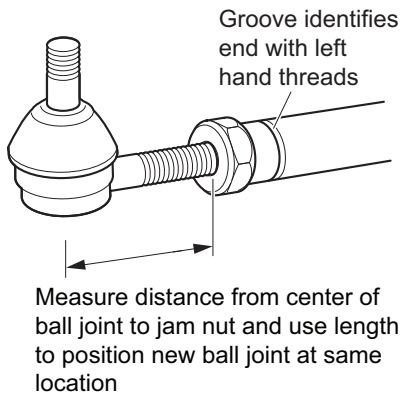

Fig. 12 Tie Rod Replacement
- To install the new tie rod ball joint close to its correct position, measure the exposed thread length from the jam nut (Ref Fig. 12).